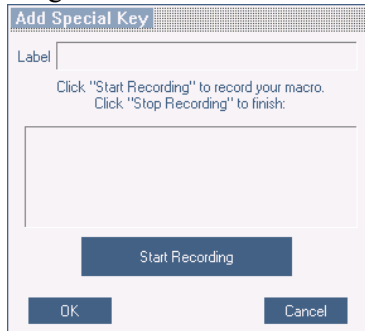

Figure 25 Add Special Key Dialog box
1. From the Special Key Manager box press **Record New**. The Add Special Key Dialog box appears, see Figure 25.